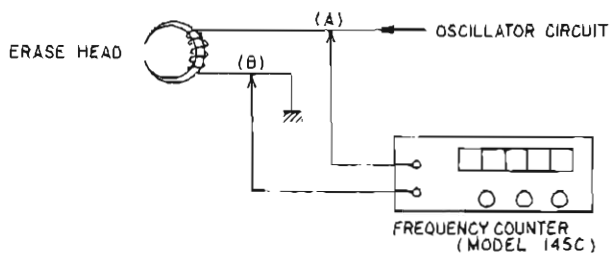

Fig. 18
Connect a Frequency Counter to points (A) and (B) in Fig. 18 of the Erase Head and read the frequency indication. If the Frequency counter reading is 62 ± 5 kHz, the recording bias frequency is correct. If the recording bias frequency is incorrect, it can be adjusted by changing the value of condenser C 402 (2000P 500 WV) of the oscillator circuit.